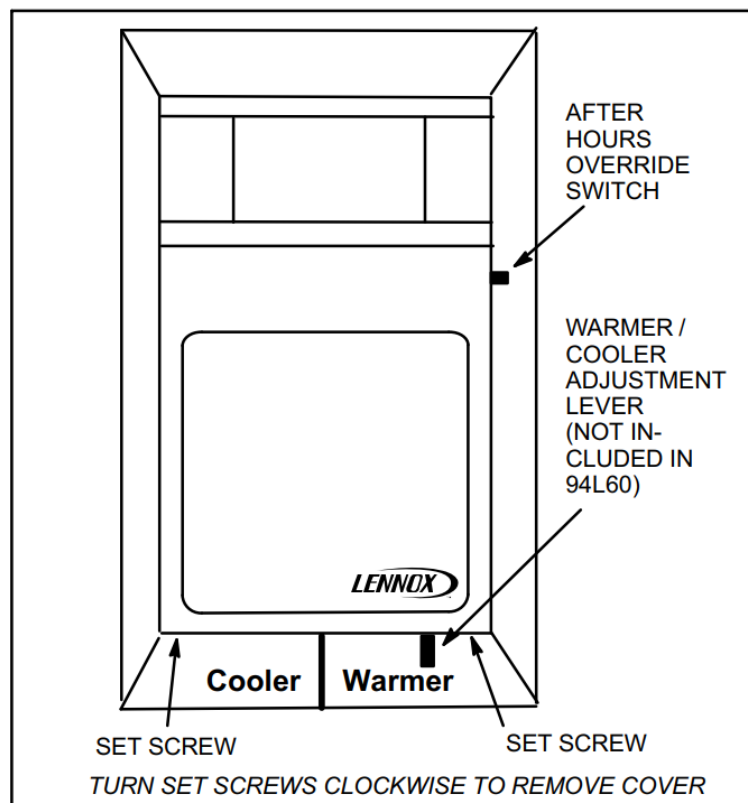

Figure 2. Zone Sensor - 56L80 and 94L60
- Loosen screws and remove sensor cover. Turn set screws clockwise on 56L80 and 94L60. See figures 2 and 3.